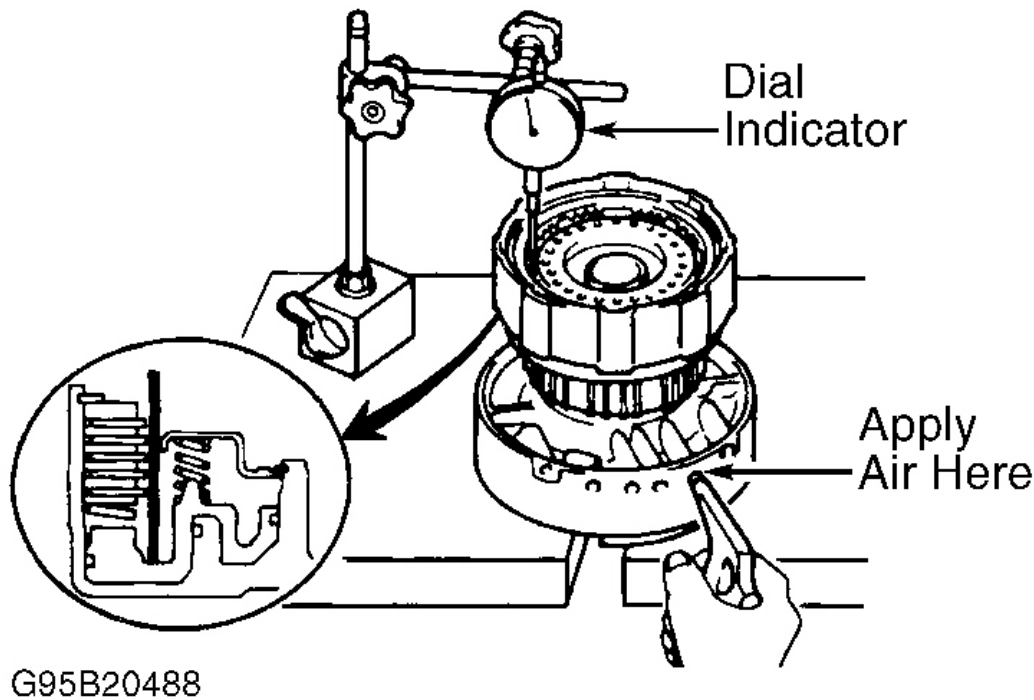

Fig. 35: Removing Forward Clutch Piston & Measuring Stroke
2. Using appropriate compressor, compress return spring assembly and remove snap ring. Place OD support on wooden blocks and install forward clutch in OD support. Apply air pressure to piston supply port and remove clutch piston. See **Fig. 35** . Remove "O" rings from clutch piston. Remove oil seal rings.
3. Install flange with rounded edge toward disc. Install snap ring. Ensure end gap of snap ring is not aligned with forward clutch drum cut out portion. Place clutch drum on overdrive support. Measure piston stroke while applying 57-114 psi (4-8 kg/cm²) to piston supply port. See **Fig. 35**.